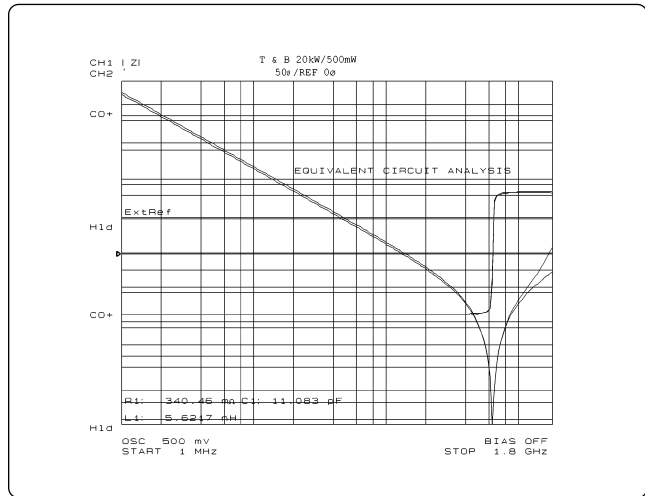

Figure 9. Simulation of frequency characteristics
- Simulate the frequency characteristics based on the parameter values entered (see figure 9).